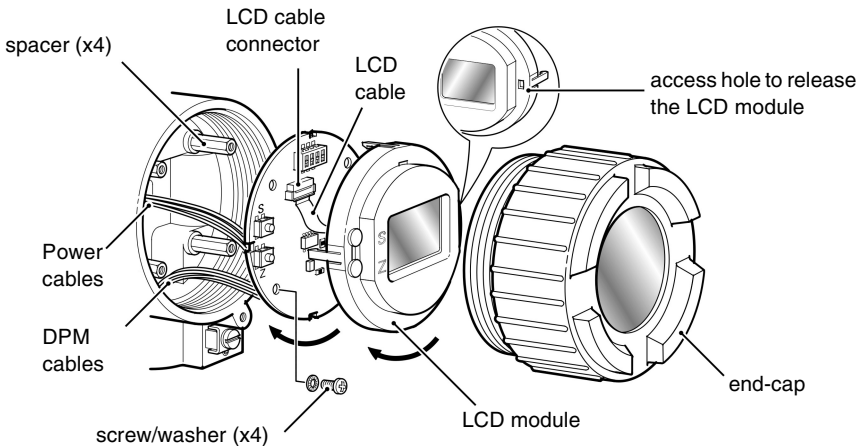

Figure 3-1: LCD module - Turn thru 90°
3.4 To Rotate the LCD Module Thru 90° (Figure 3-1)